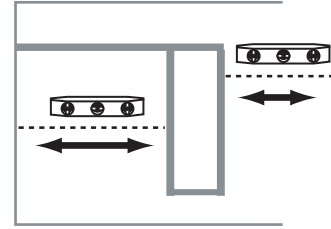

FIG. 4.1
2. Draw level line equal to shelf length for all **LOWER (D)** shelves onto back closet wall (Fig. 4.1).